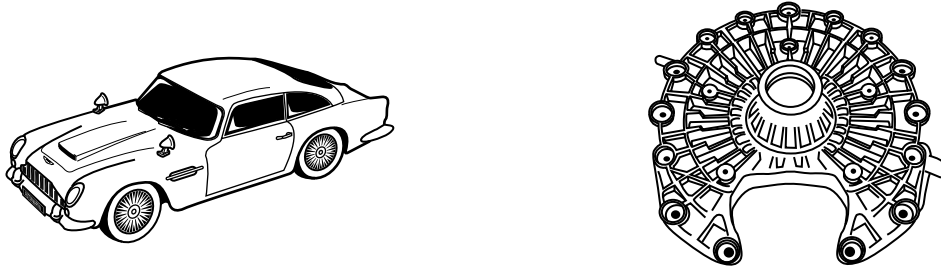

Fig. 2
- 5 Fig. 2 shows a toy car and a machine part. Both are made by the die casting process.